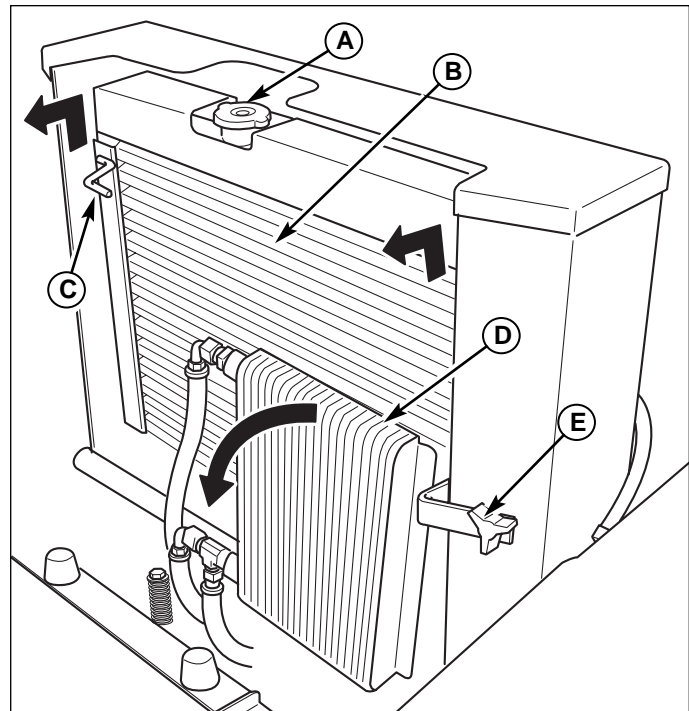

Figure 19. Radiator & Oil Cooler
1. Remove the radiator pressure cap (A, Figure 19) to check the fluid level.